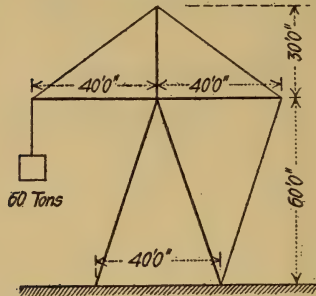

FIG. 8.
1. Determine the stresses in the members of this crane (Fig. 8), both analytically and graphically.